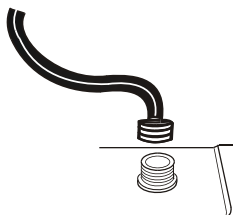

Figure 3
4. Attach the hose connected with the water faucet to the water valve. ( As figure 3)